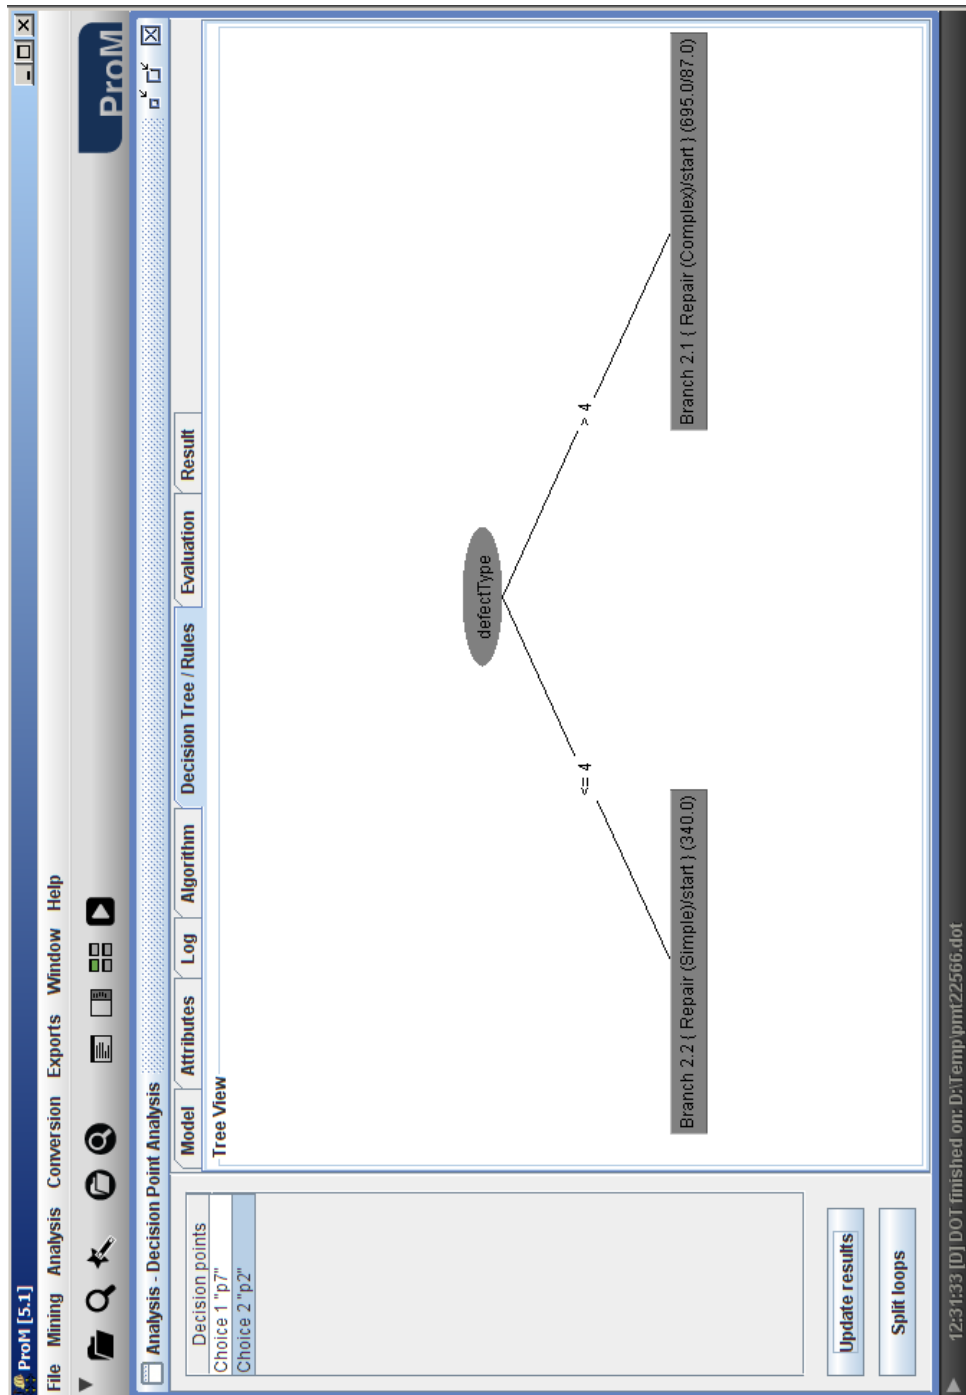

Figure 4.5: Screenshot of the analysis plug-in *Decision Point Analysis: Decision Tree/Rules* tab.
7. Select the tab *Decision Tree/Rules* (cf. Figure 4.5). Remark the text *(695.0/87.0)* inside the box for the task “Repair (Complex)”. This means that *according to the discovered business rules, 695 cases should have been routed to the task “Repair (Complex)” because their defect type was bigger than 4. However, 87 of these cases are misclassified because they were routed to the task “Repair (Simple)”*. Thus, the automatically discovered business rules describe the conditions that apply to the majority of the cases, but it does not mean that all the cases will fit these rules. Therefore, we recommend you to always check for the results in the tab *Decision Tree/Rules* as well. In our case, these result makes sense because, from the description of the running example (cf. Section 1.3), we know that some defect types can be fixed by both teams.